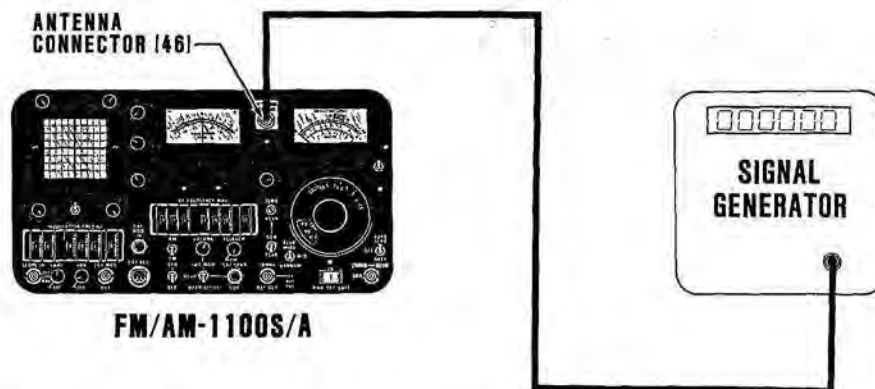

Figure 3-43 Signal Generator to FM/AM-1100S/A Connection.
9. Disconnect RF Power Generator and Thru-Line RF Wattmeter from TRANS/RCVR Connector (9) of FM/AM-1100S/A. Using 50 Ω coax cable, connect Signal Generator to ANTENNA Connector (46) of FM/AM-1100S/A, as shown in Figure 3-43.